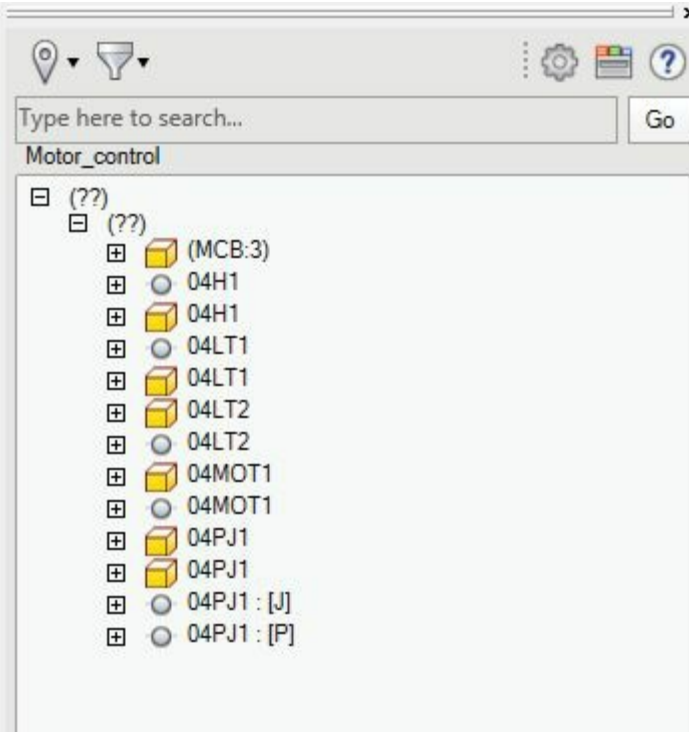

Figure-15. Expanded locations in Location View pane
- Expand the location codes in the **Location View** pane to display the components; refer to Figure-15.
Note that in Figure-15, the components are displayed with different icons. These icons show the nature and origin of component. There are four type of icons that are displayed in **Location View** pane before the component name, which are: